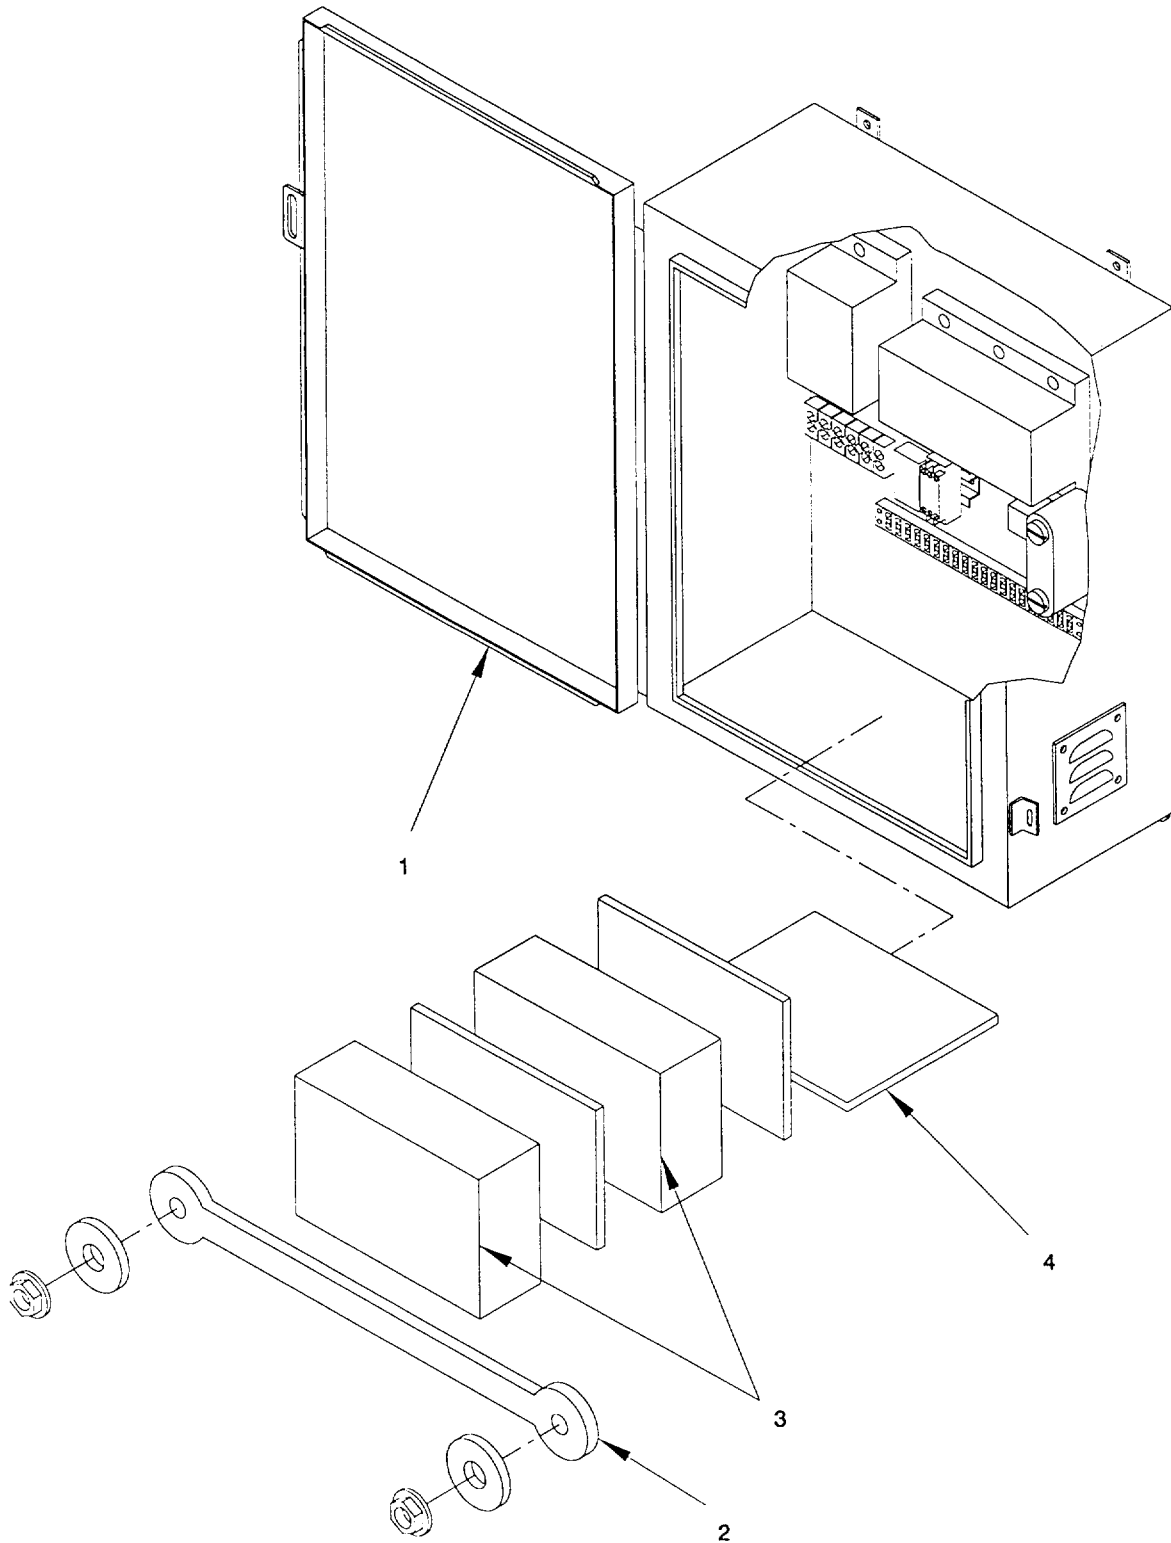

Figure 2-80. Batteries, Pump-Jet Direction/Auxiliary Battery Junction Box "A9", Remove/Install.
a. Remove. (figure 2-80)
- (1) Open enclosure door to access interior of junction box (1).
- (2) Disconnect electrical wiring to junction box A9 (1) and tag OUT OF SERVICE.
- (3) Remove battery strap (2) freeing batteries BT5 and BT6 (3). Collect battery pad (4).
b. Install. (figure 2-80)
- (1) Position battery pad (4) on bottom inside of junction box (1).
- (2) Position batteries (3) in junction box A9 (1) and secure with rubber battery strap (2).
- (3) Connect electrical wiring to junction box A9 (1). Refer to Appendix G.
- (4) Close door to junction box (1).